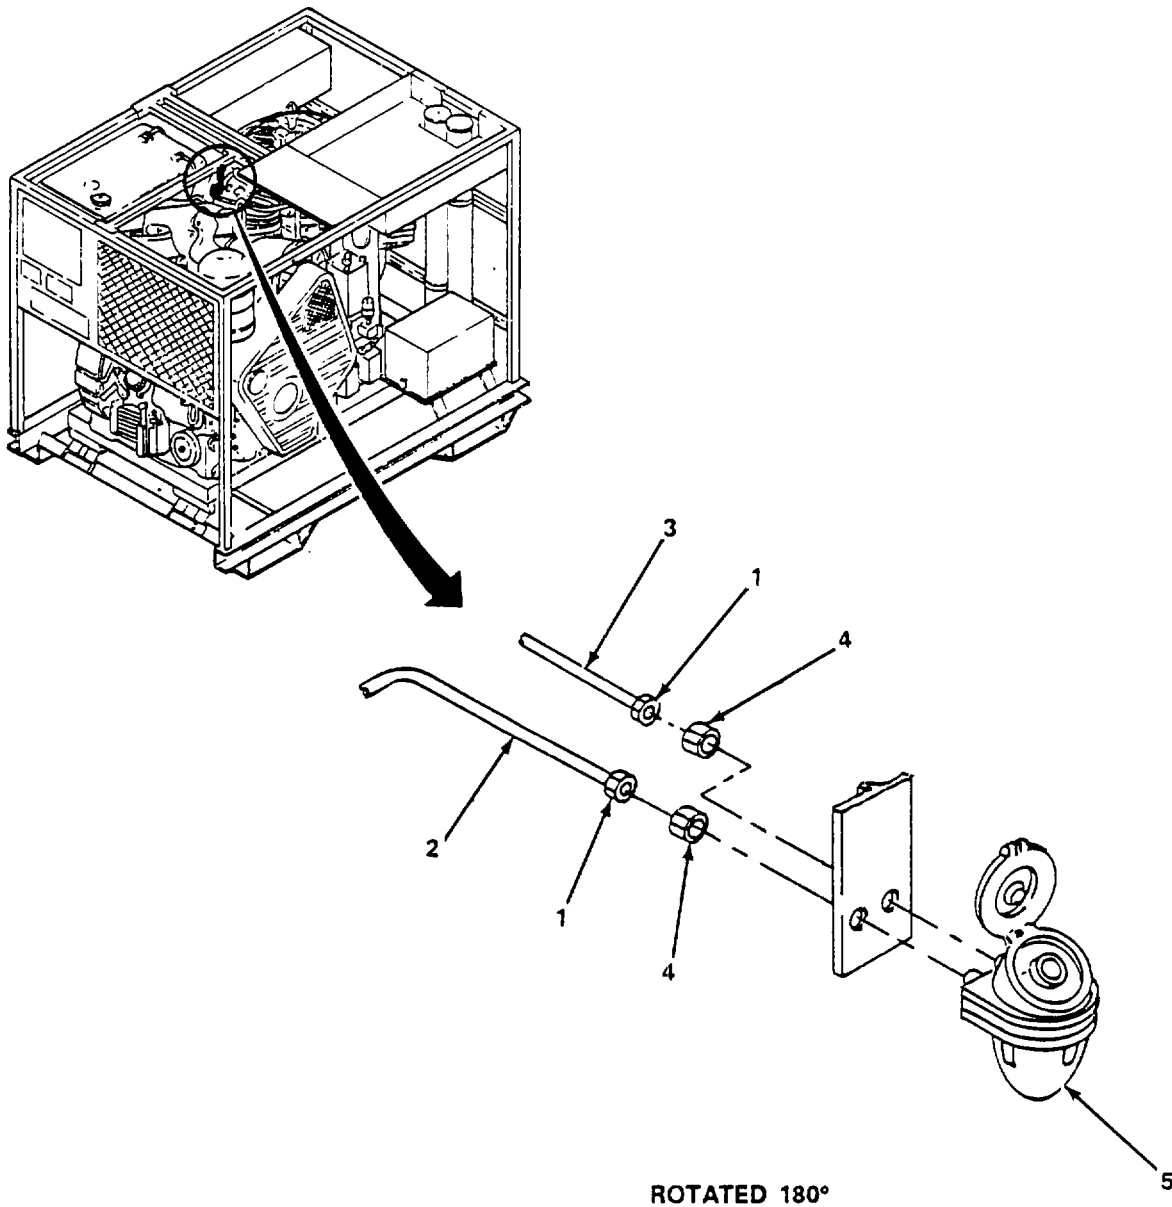

Figure 4-64. Reservoir, Replace.
(2) *Replace reservoir.* (figure 4-64)
- (a) Loosen two fitting nuts (1) and remove lines (2) and (3).
- (b) Remove two fittings (4) and remove reservoir (5).
- (c) Install reservoir (5) and secure with two fitting (4).
- (d) Install lines (2) and (3) and tighten two fittings (1).